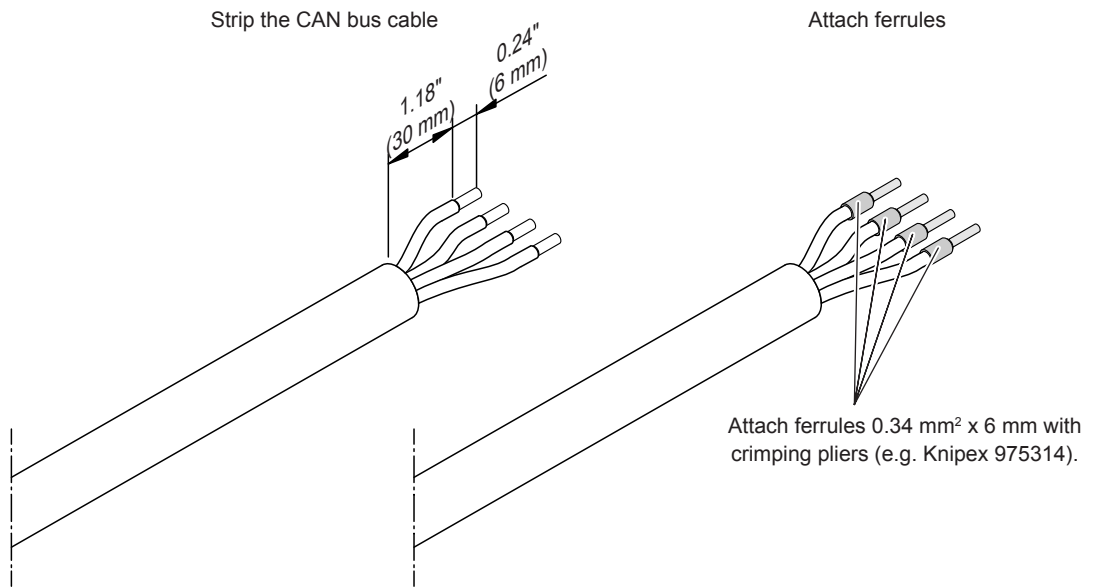

Fig. 19: Preparing cable(s)
- Prepare the CAN bus cable(s) to be connected to the Control Box according to Fig. 19.